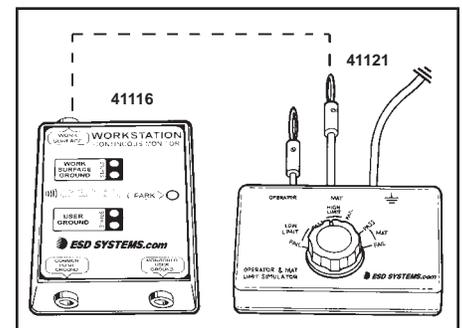

Figure 3. Testing 41116 work surface PASS AND FAIL.
Step 2: Insert the calibration unit's banana plug marked "Mat" into the jack marked "Work Surface" on the 41116. See figure 3.